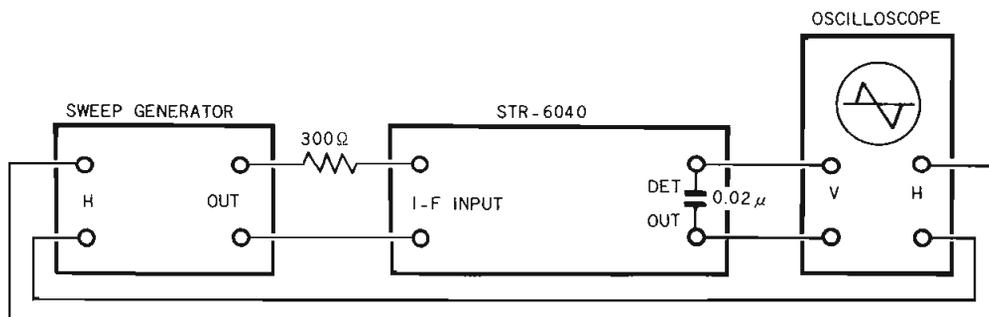

Fig. 3-2 Fm discriminator adjustment test set-up
1. With the equipment connected as shown in Fig. 3-2, set the 10.7 MHz sweep generator controls as follows: